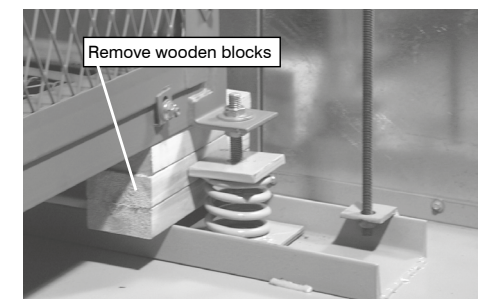

FIGURE 19. Fan shipping restraints located at the base of the fan.
- C) Remove wooden blocks and discard all shipping restraints (see **FIGURE 19**).